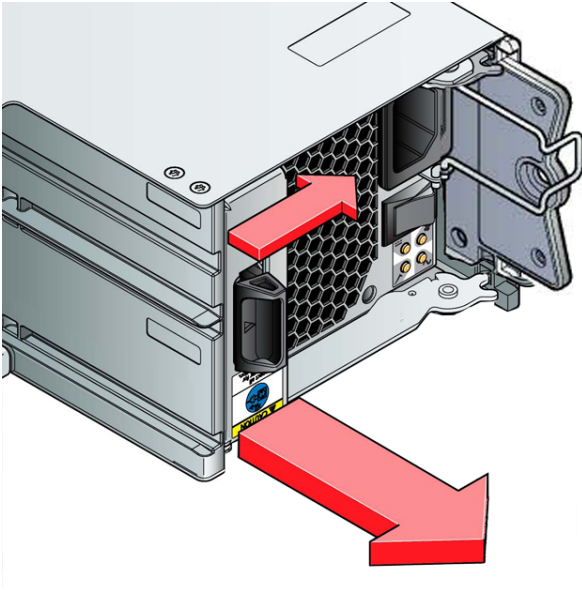

Figure 6-1 - Removing a PCM (1)
3. Grasp the latch and the side of the PCM handle between thumb and forefinger, squeeze together and open the handle to cam the PCM out of the enclosure (see Figure 6-1).